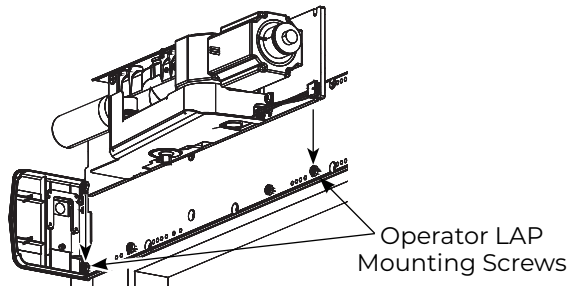

Figure 11 Left Hand LAP shown
2. Insert two (2) 1/4-20 x 1/2" Phillips pan head screws on each backplate into appropriate engraved locations. Leave a 5/16" minimum gap between backplate and underside of screw head.
3. On each backplate, orient LAP so spring tube of closer is pointed toward closest hinge edge of frame. Slide each LAP over two (2) screws and tighten. (Figure 11)